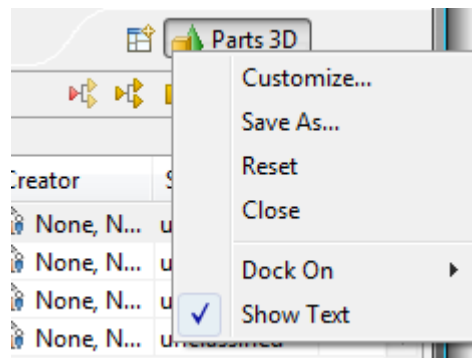

Figure 1. Context sensitive menu on the active perspective button
- Select **Reset** menu item in the appeared context sensitive menu (see Figure 1).